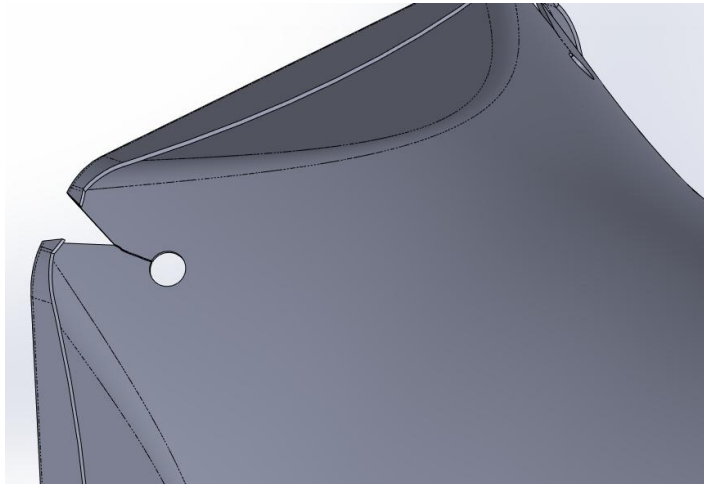

Figure 3 — Example of Stop Drill
- 2.1.4 Locate the tip of the crack by unaided visual inspection. Drill a 0.1 inch diameter hole beyond the visible crack tip in the path of the crack as shown in Figure 3.